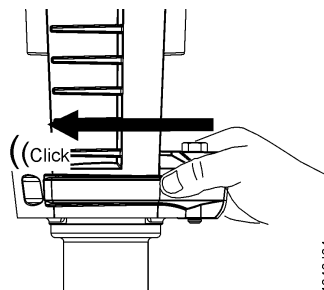

Figure 6.
4. Completely close the bonnet connection U-bracket. See Figure 6.